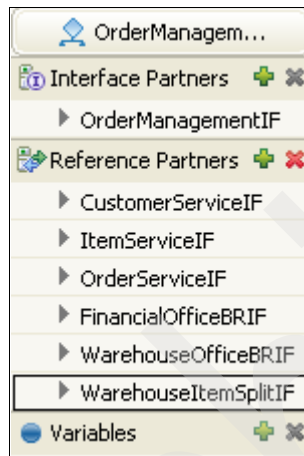

Figure 3-186 OrderManagementBP reference partners after adding warehouse split
1. Open the OrderManagementBP and add the WarehouseItemSplitIF as a reference partner, as shown in Figure 3-186.